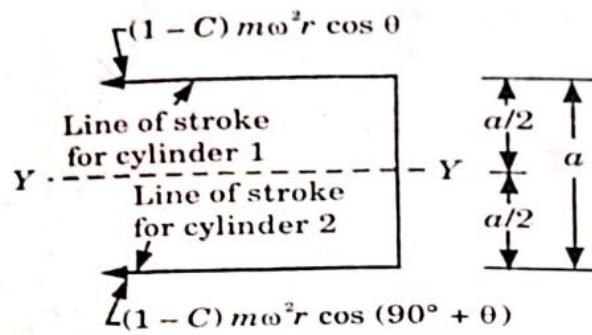

Fig. 4.9.2. Swaying couple.
1. The unbalanced forces along the line of stroke for the two cylinders constitute a couple about the centre line YY between the cylinders as shown in Fig. 4.9.2.